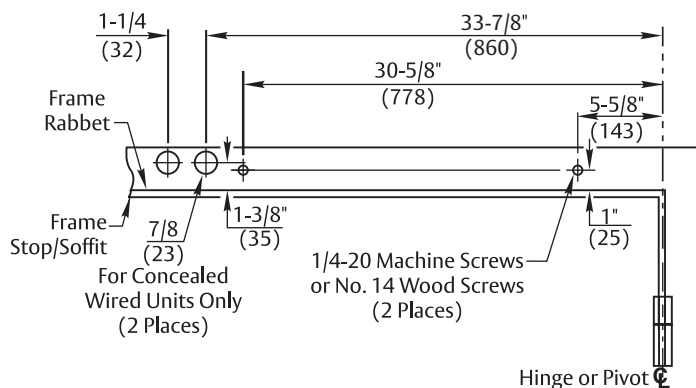

Figure 3 Left Hand Shown
3. Using template on page 26, prepare mounting holes for screws. (Figure 3)
- c. Drill/tap two (2) 1/4-20 holes for steel frame or two (2) #14 holes for wood frame at marked locations.
- c. Drill two (2) 7/8" diameter holes in frame at marked locations.